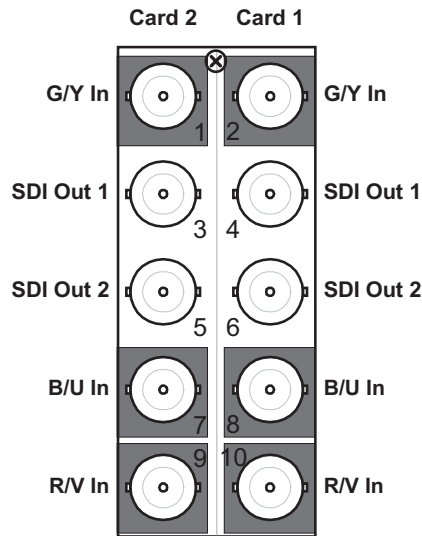

Figure 2.4 Cable Connections for the 8320AR-031 Split Rear Module
- **8320AR-031** Split Rear Module — Each rear module occupies two slots and accommodates two cards. This rear module provides three inputs, and two SD-SDI outputs per card. (**Figure 2.4**)
- Split Rear Modules — Connect cables according to **Figure 2.4** and depending on the slot that the ADC-8733A is installed in.
- Split Rear Module — Connect cables according to **Figure 2.4** and depending on the slot that the ADC-8733A is installed in.